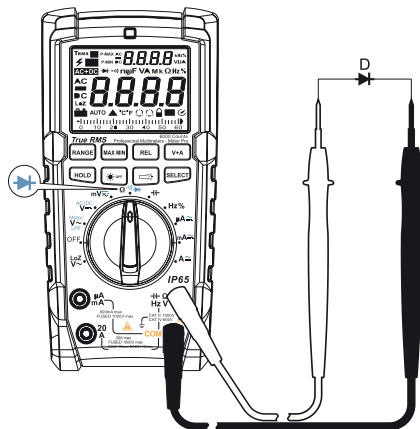

Figure 4
7. Diode Measurement (see Figure 4).